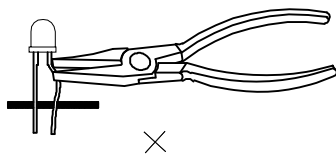

Fig. 7
4. During lead forming, use tools or jigs to hold the leads securely so that the bending force will not be transmitted to the LED lens and its internal structures. Do not perform lead forming once the component has been mounted onto the PCB. (Fig. 7)